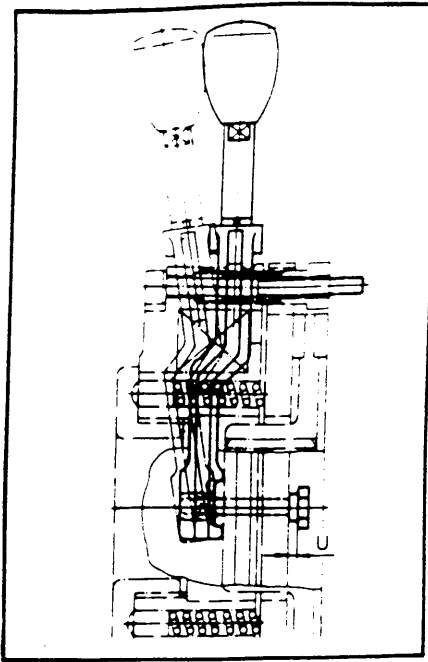

FIGURE 3
9. If air gap adjustment is necessary, loosen bolts (9A), rotate the adjustment tubes (8) at approximately 1/4 turn, retighten bolts (9A), and measure air gap. If air gap is not within tolerance, repeat procedure.
10. Set the hand release gap (Dimension "U" Figure 3) to the value indicated in Table 3 by tightening nuts (13H). Once set the nut is locked with factory applied thread locking compound. Any change in this setting could interfere with the safe operation of the brake.